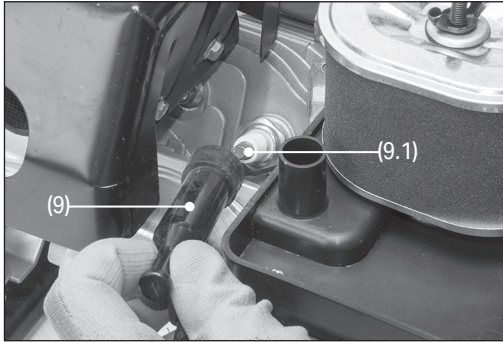

Fig. 18
1. Remove the spark plug cap (9) by hand (Fig. 18).